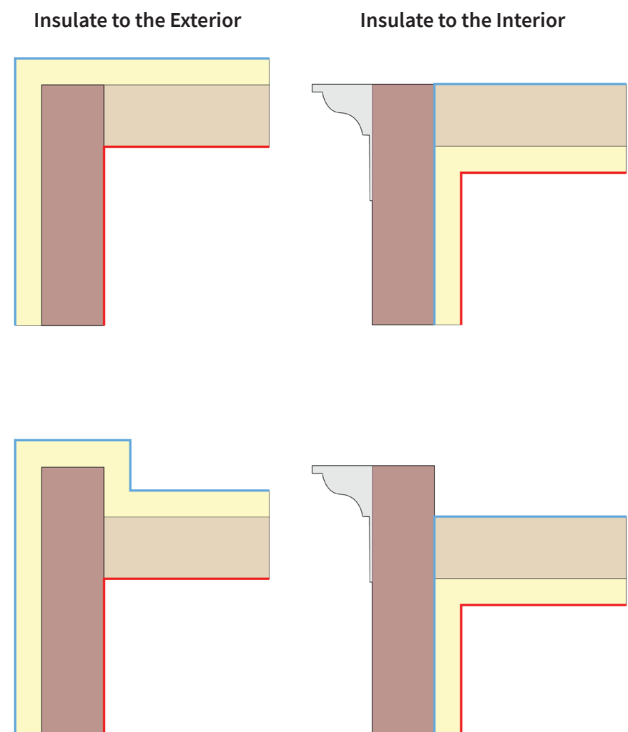

Figure 8: Air Barrier Options at of Roof Line
- Here, the focus is on maintaining continuity of the air barrier at geometric and material transitions. Using the roof as an example (Figure 8) at each of the transitions, different materials and construction techniques will result in potential seams and spaces for air to penetrate the building. As Figure 8 indicates, the ABRL draws attention to the connection points so that airtight details can be developed.